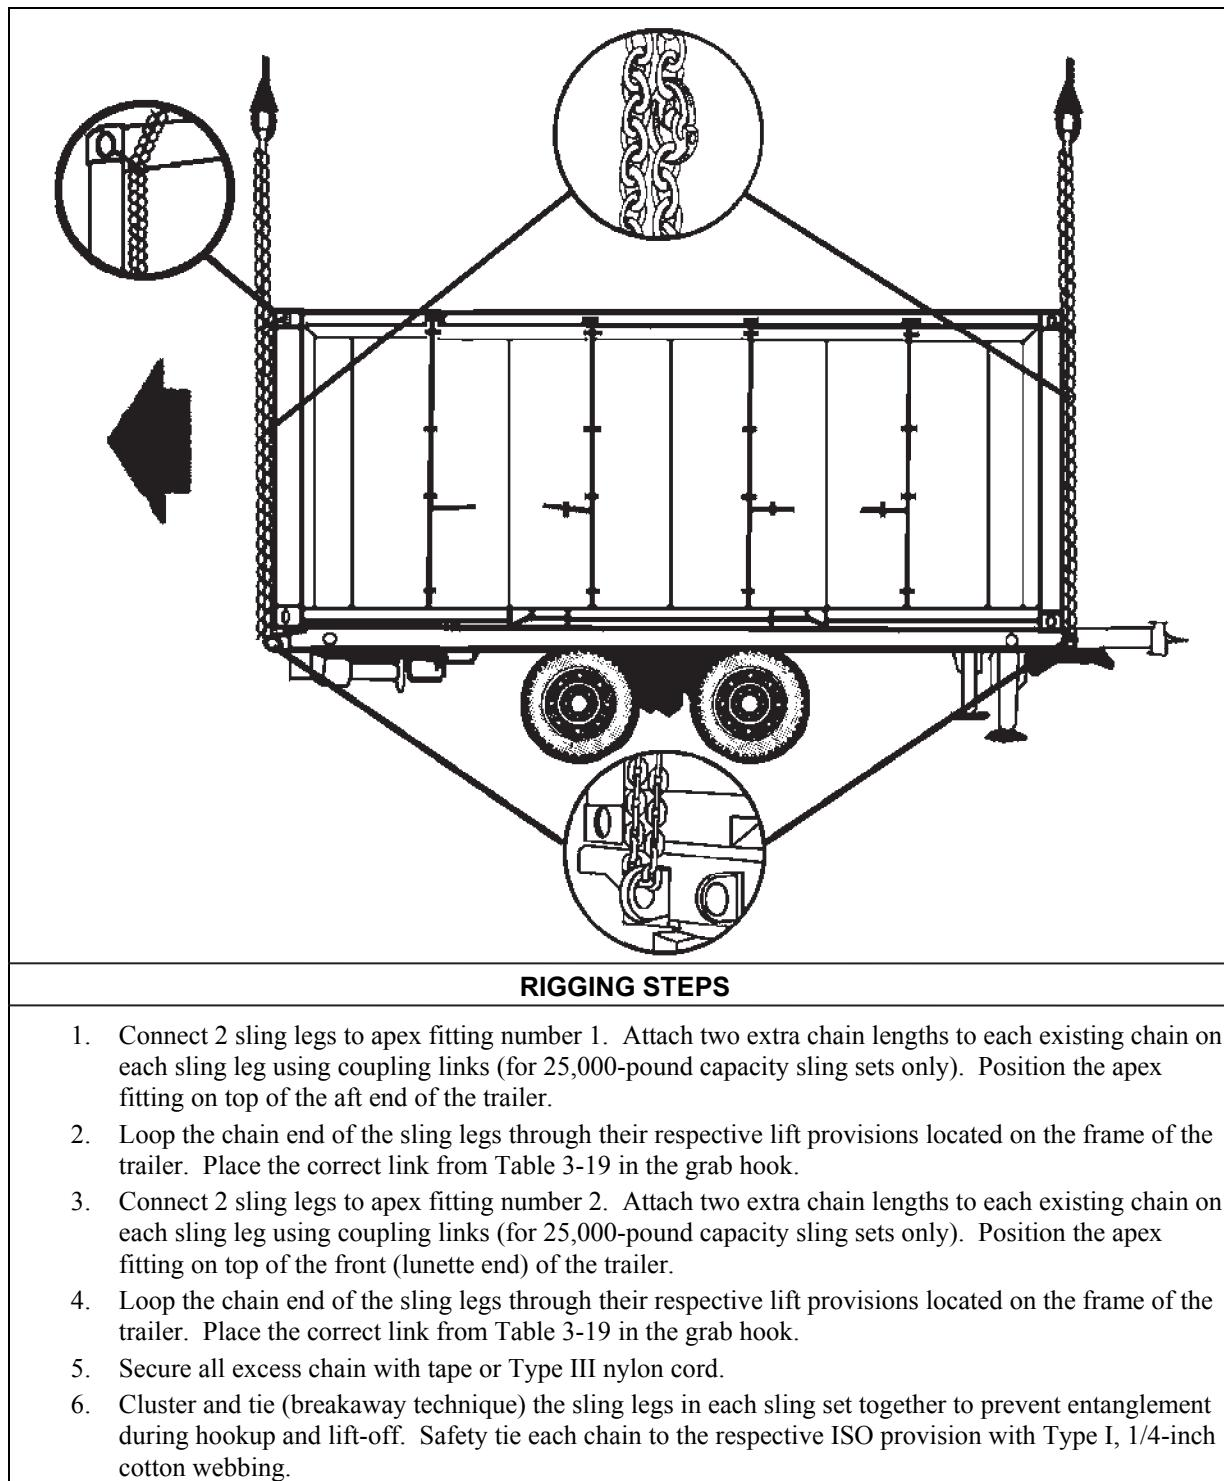

Figure 3-19. Containerized Kitchen Mounted on the Containerized Kitchen Trailer
- **Rigging.** Rig the load according to the steps in Figure 3-19.